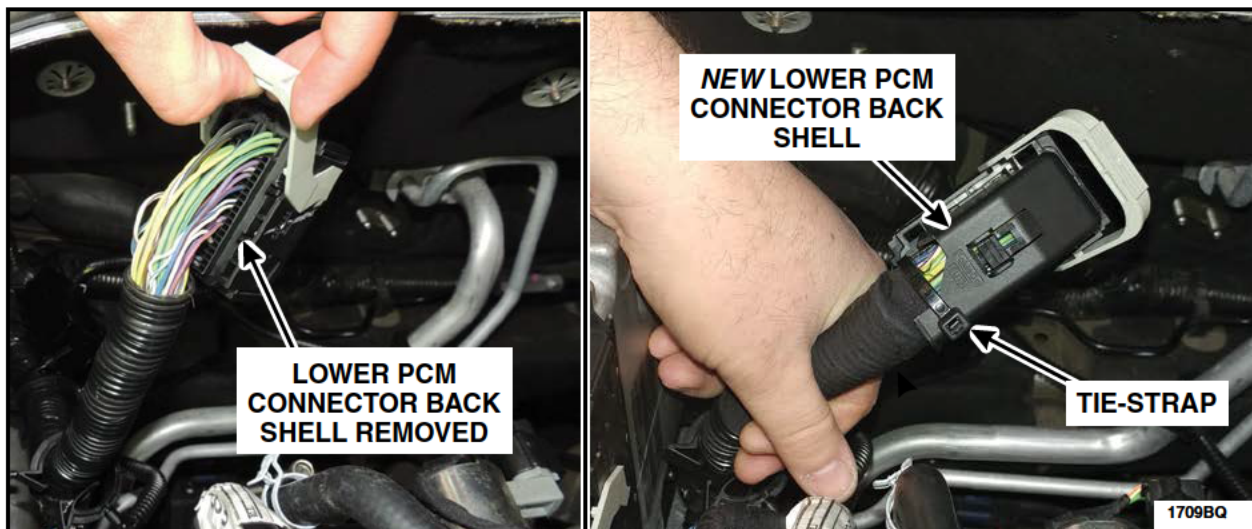

FIGURE C2
3. Replace the connector back shell with the *new* connector back shell. Secure the PCM connector wires to the back shell and the *new* tie-strap. See Figure C2.